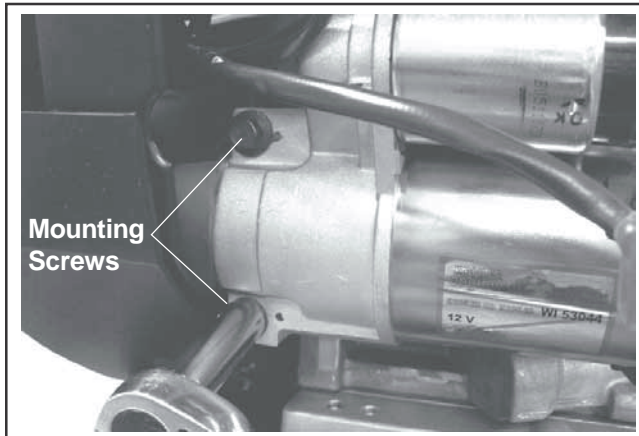

Figure 8-7. Removing Electric Starter.
2. Remove the two hex flange screws and starter. See Figure 8-7.